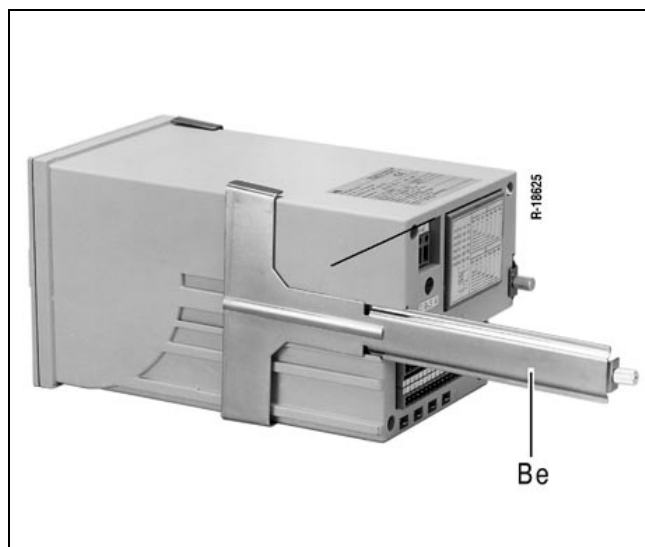

Fig. 3 Inserting fastener
2. Insert fasteners *Be* into the grooves on the lateral side of unit (see Fig. 3).